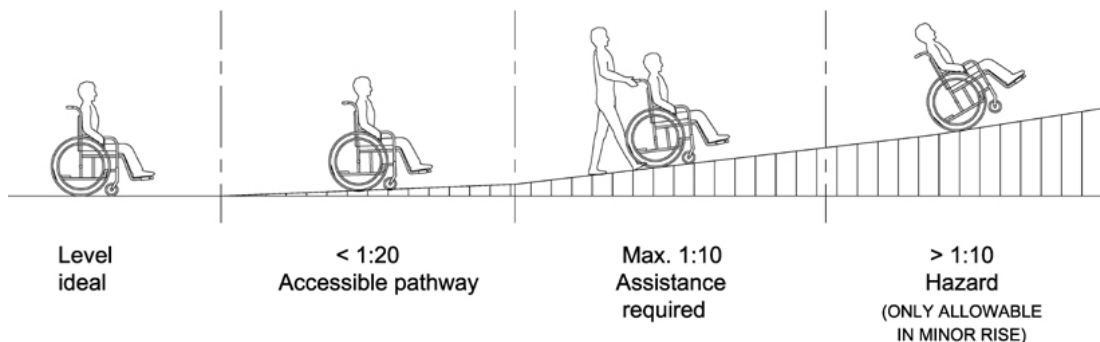

Figure 8 - Running Slope and Length
- (b) The more gradual the slope of the ramp (i.e. the less steep it is) the more easily persons can use it without assistance. Therefore, slope with the ratio of 1:20 (5%) to 1:15 (6.7%) is preferred. It can take much energy to get up ramp with steep gradient, which also makes speed control difficult when going down. Steep inclines can put a wheelchair in danger of tipping backwards or forwards as many users cannot lean or adjust their balance to accommodate gradient (see Figure 8).